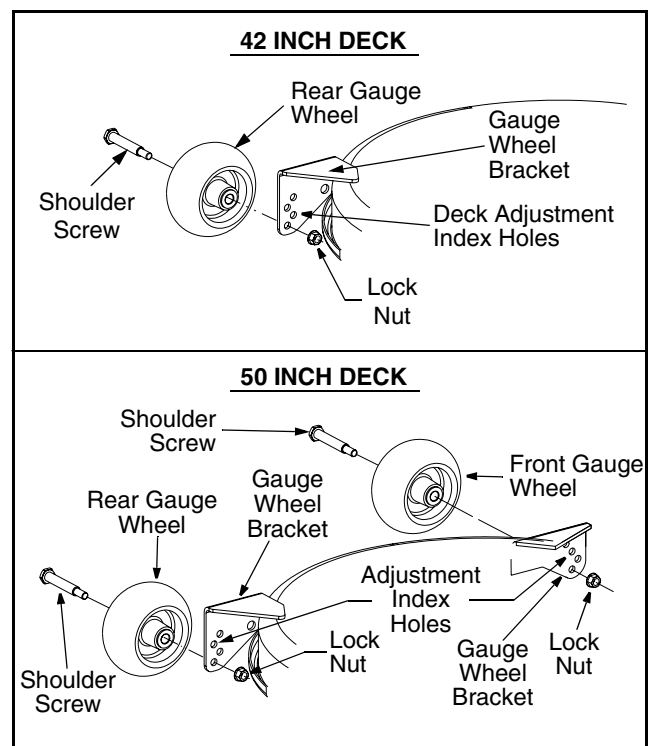

Figure 34
- Remove the lock nut securing one of the gauge wheel shoulder screws to the deck. Remove the gauge wheel and shoulder screw. See Figure 34.